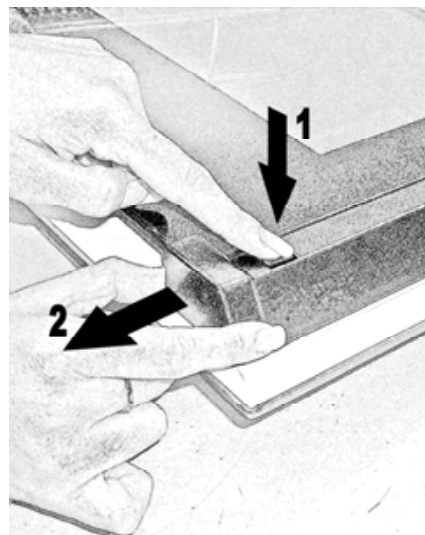

fig. 4
2. Release the two upper blocks by pressing down as shown in fig. 4.